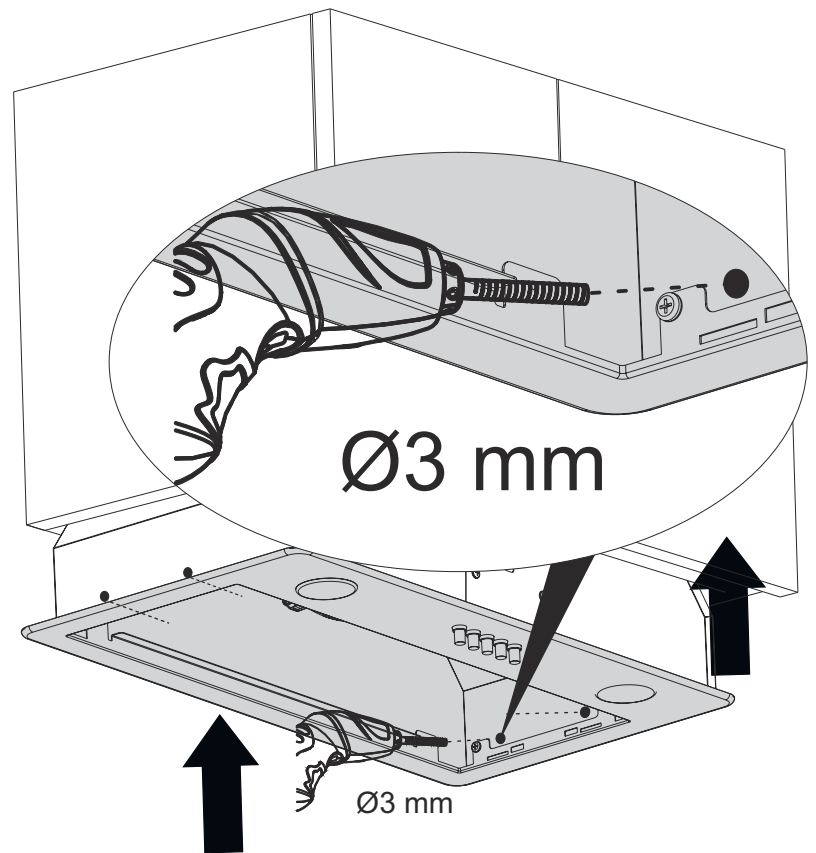

Fig. 19
8. → After cutting out the place where the product will be mounted, install the hood on the kitchen cabinet and drill the mounting holes with a Ø3 mm drill. (Fig. 19).